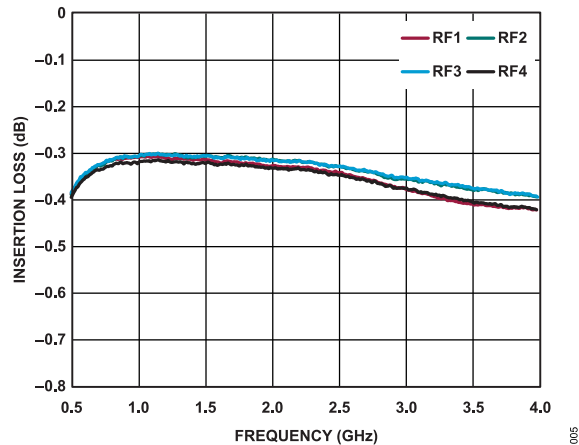

Figure 5. Insertion Loss for RFC to RFx Selected vs. Frequency
- 5. The ADRF5347-EVALZ is expected to have an insertion loss of 0.42 dB at 3.8 GHz. See the expected results in Figure 5.